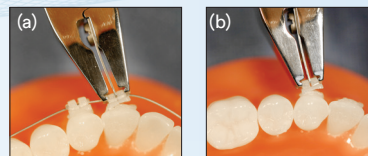

Figure 3a-b
A. Yes. It is recommended to debond Clarity ADVANCED Ceramic Brackets with the archwire in place and ligated (Figure 3a) in order to hold together debonded bracket parts. However, if necessary, brackets may be debonded with the archwire removed (Figure 3b). Extra caution should be taken when debonding without the archwire in place. Maintain the hold on the bracket to keep the debonded bracket parts in the instrument tips.